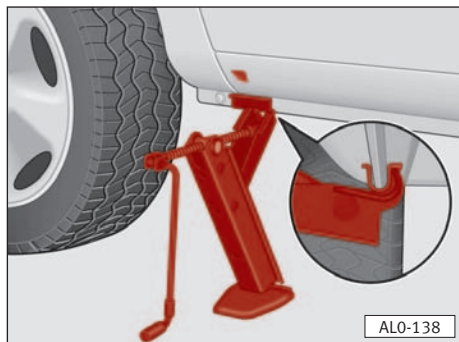

Fig. 178
- The claw of the jack must fit round the vertical rib on the side member so that the jack cannot slip when vehicle is lifted ⇒ fig. 178.